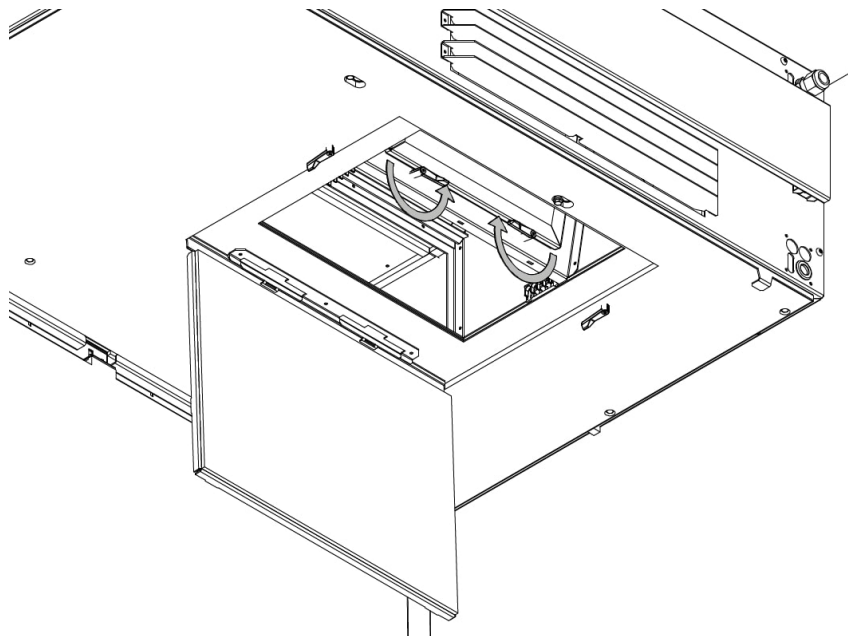

Figure 28: Close the coarse filter hinges
5. Close the coarse filter hinges, see Figure 28.